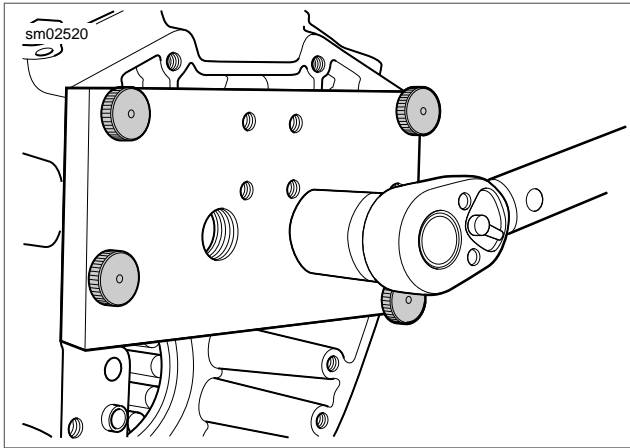

Figure 3-125. 1 Inch (25.4 mm) Bearing Installation
- b. See Figure 3-125. Using torque wrench, turn hex at end of installer forcing screw in a clockwise direction to press needle bearing into bore